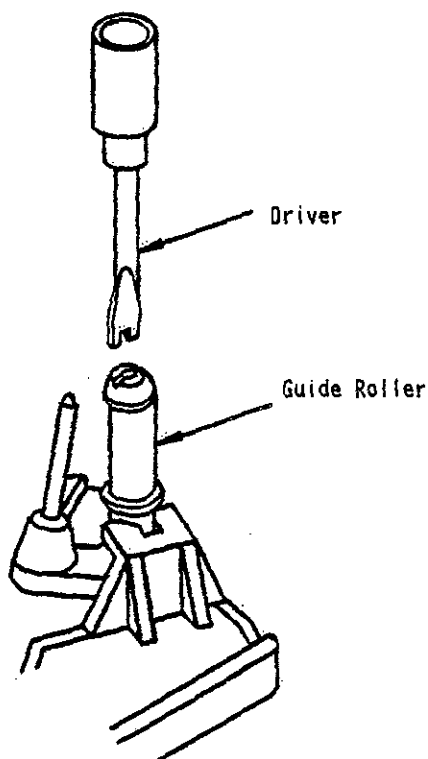

Fig. 5-5
7. Next, adjust the guide roller height. Insert the adjustment driver into the guide roller top. (Refer to Fig. 5-5).